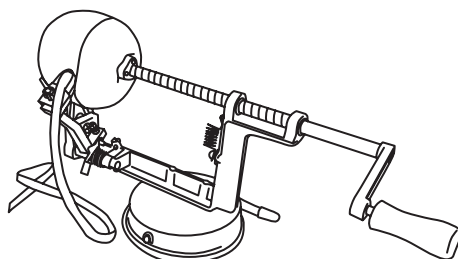

FIGURE 4
6. Turn the Handle clockwise to start peeling the apple (**FIGURE 4**).